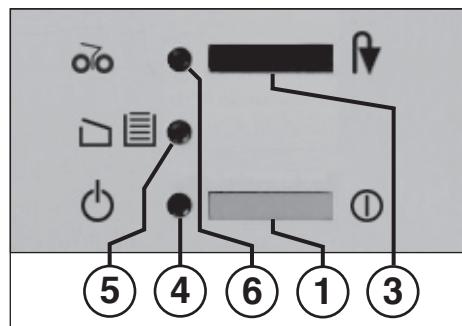

fig. 1
#### 1 = Pushbutton switch (fig. 1)
#### 3 = Pushbutton switch (fig. 1)
#### 4 = Pilot lamp (fig. 1)
#### 5 = Pilot lamp (fig. 1)
#### 6 = Pilot lamp (fig. 1)
- Turn machine on with pushbutton switch (1) (fig. 1). Pilot lamp lights up (4) (fig. 1).
Once the collecting bag is full, the machine switches off. The pilot lamp „Container full“ / „Door open“ (5) (fig. 1) **flashes**. To show that the cutting mechanism has stopped, the pilot lamp „Paper jam“ / „Stop“ (6) lights up.
- Move back the sliding frame with the collecting bag and close door. The pilot lamp (5) (fig. 1) goes off.
- Briefly press the pushbutton switch „Backward operation“ / „Stop“ (3). The cutting mechanism shreds what remains in the feed shaft and then switches off. The pilot lamp (6) goes out. You can now continue shredding.
- The pilot lamp (6) (fig. 1) lights up.
- **Continuously** press pushbutton switch „Backward operation“ / „Stop“ (3) while simultaneously removing from the machine any documents that were being fed in.
- After removal, the cutting mechanism automatically runs forwards, shreds any remnants remaining in the inlet slot and then switches off. The pilot lamp (6) (fig. 1) goes out.
**Note:** If removal is not possible, then briefly press the pushbutton switch „Backward operation“ / „Stop“ (3) again. The cutting mechanism now automatically repeats the process as described above until the paper remaining in the cutting mechanism has run through.